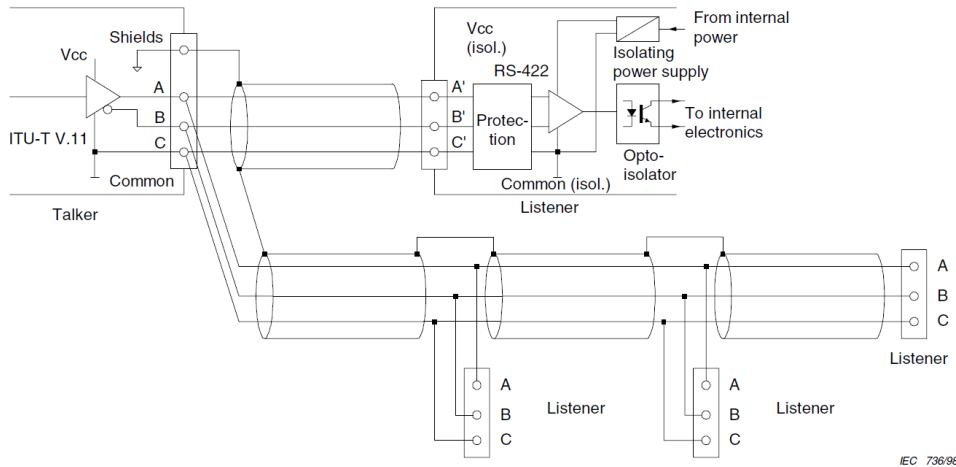

Figure 8: IEC 61162-2 Circuits
- One talker (Tx side, commonly a sensor such as GPS) may be connected to one or more listeners (Rx side, e.g. displays or computer systems such as ECDIS). The circuit looks as shown in *Figure 8: IEC 61162-2 Circuits* on page 16.